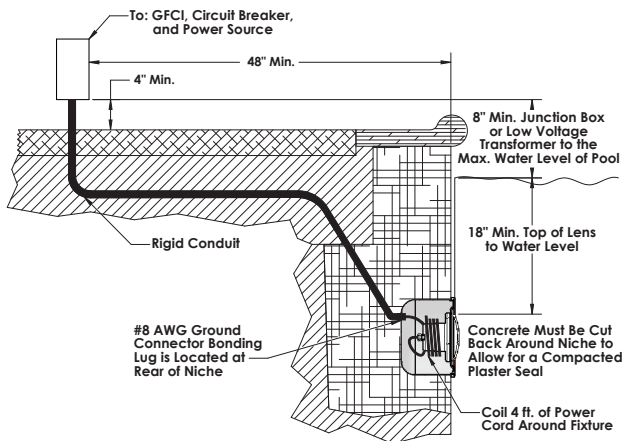

Figure 1.
- Proper wet niche installation with the top edge of the underwater light's lens at least 18 inches below the surface of the water in the pool and not more than 20" in Canada; reference Figure 1.
- Proper electrical wet niche bonding and grounding using the #8 AWG ground connector at the rear of the niche; reference Figure 1.
- The wet niche is properly electrically bonded and grounded via the No. 8 AWG ground connector located at the rear of the niche; see Figure 1.